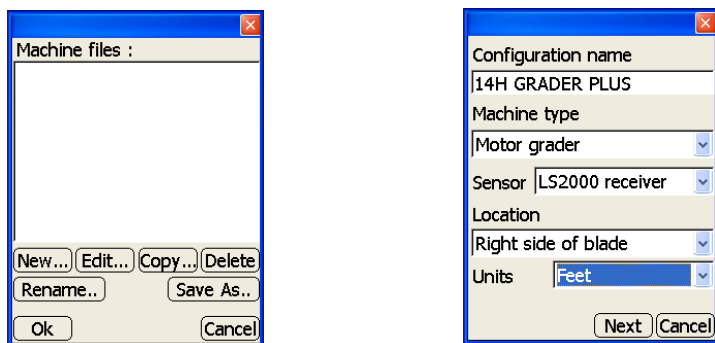

Figure 2-54. Equipment Configuration File
- On the **Machine files** dialog box, press **New** to create (or **Edit** to change) an equipment configuration file (Figure 2-54 on page 2-38).
- On the **Configuration name** dialog box, set the following equipment parameters, and press **Next** (Figure 2-54 on page 2-38):